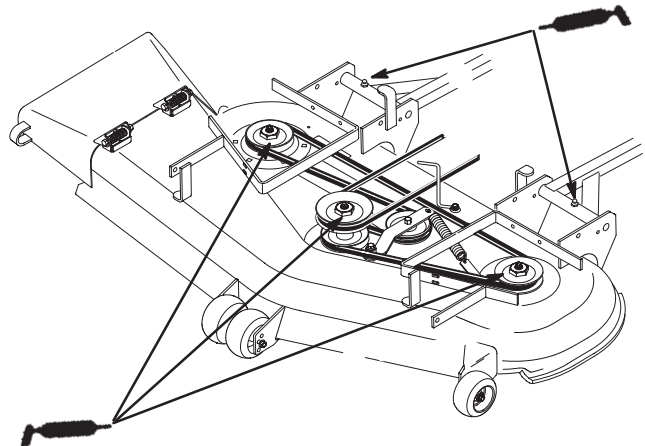

Figure 34
2. Grease the fittings on the three spindle bearings until grease comes out lower seals (Fig. 34).
3. Grease the fittings on the push arms(Fig. 34).